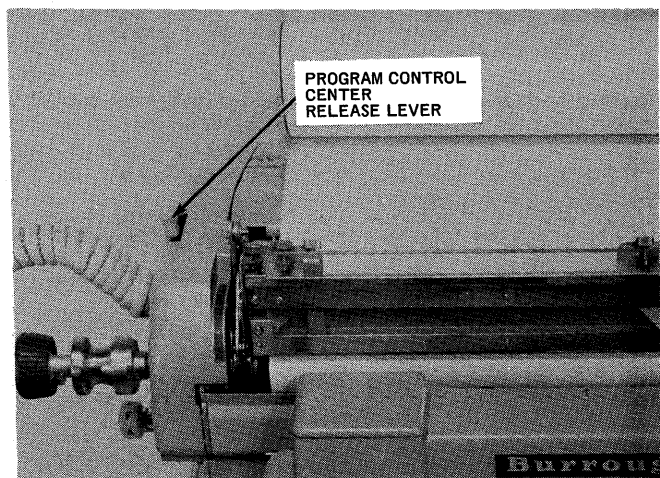

Figure 2-30. Program Control Release Lever
2. Move the Program Control Center Release Lever to the rear and slide the panel to the right to remove it from the carriage (see Figure 2-30).